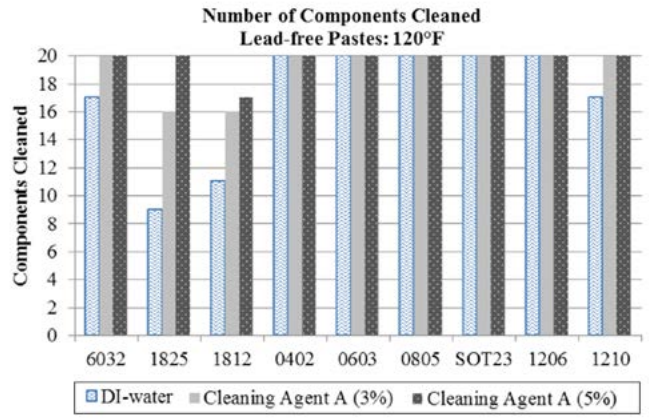

Figure 5: Results - Component Analysis
- Increasing temperature did not improve cleaning results with the larger components and, in fact, decreased cleaning results with 6032 and 1812 (Figures 5, 6, and 7).